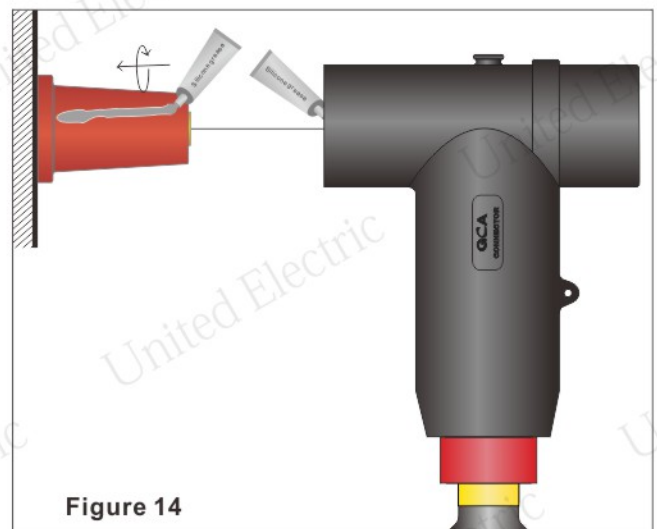

Figure 14
- Coat evenly a thin layer of silicone grease onto the connected bushing, and the inner surface of the front end of the T connector. (Figure 14)